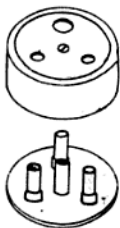

Fig. 2.7 Three-pin wall socket 5 A, 250 V
**Three-Pin Wall Socket 5 A, 250 V** All portable appliances, such as table fans, radios, etc. are connected to the supply mains by these wall sockets made of Bakelite (Fig. 2.7).